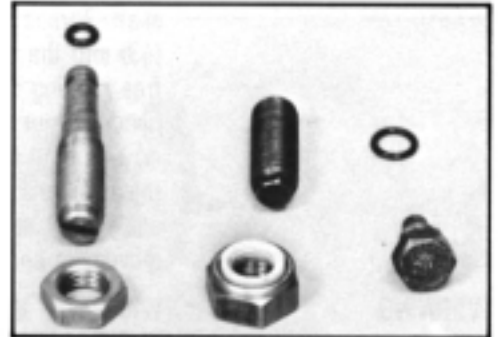

Figure 138
32. If you removed a non adjustable hex head poppet screw (53A) and o-ring (52A) from the housing, assemble a **new** o-ring (52A) on the poppet screw. Install the poppet screw assembly in housing (55) and torque screw to 15-20 ft. lbs. (20-27 N m). SEE FIGURE 138. 1/2 or 9/16 inch hex socket required.